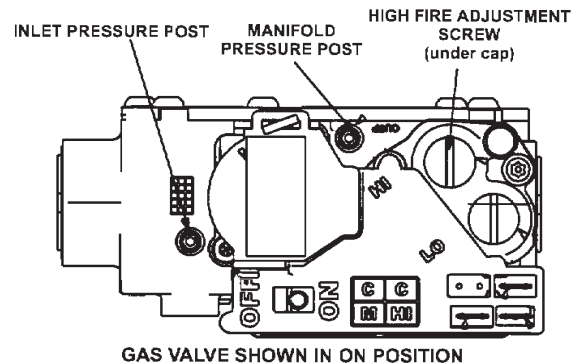
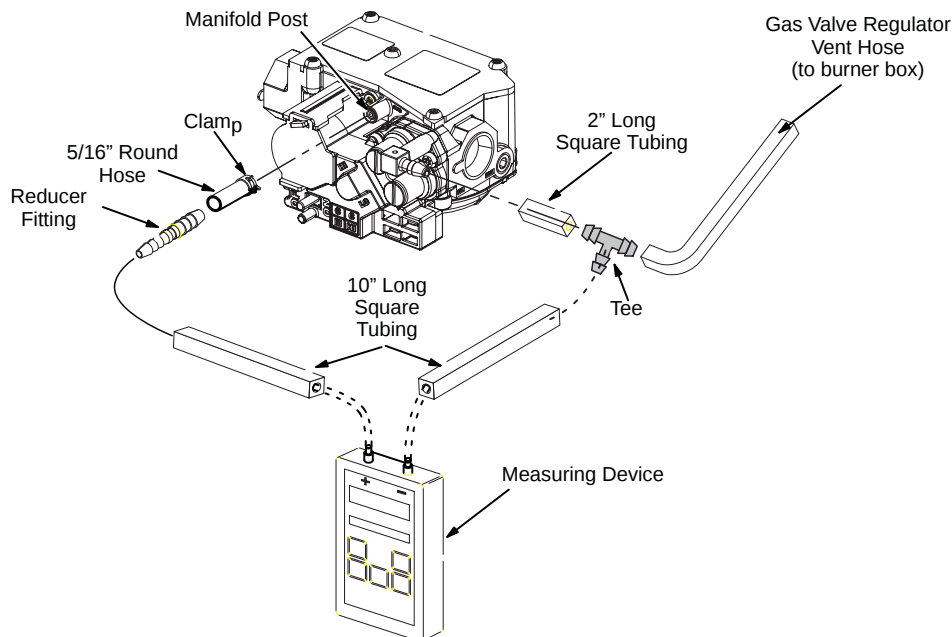

Figure 50. Gas Valve Shown in ON Position
Figure 52. Manifold Pressure Check Setup
Gas Valve Operation (Figure 50)
6. Move gas valve switch to OFF. See **Figure 50**.
8. Move gas valve switch to ON. See **Figure 50**.
An inlet post located on the gas valve provides access to the supply pressure. See **Figure 50**. Back out the 3/32 hex screw one turn, connect a piece of 5/16 tubing and connect to a manometer to measure supply pressure. See **Table 19** for supply line pressure.
A manifold pressure post located on the gas valve provides access to the manifold pressure. See **Figure 50**. Back out the 3/32 hex screw one turn. Follow the steps below and use **Figure 52** as a reference. Gas manifold Kit 10L34 provides additional components if needed.
7. If necessary, make adjustments. **Figure 50** shows location of high fire and low fire adjustment screws.